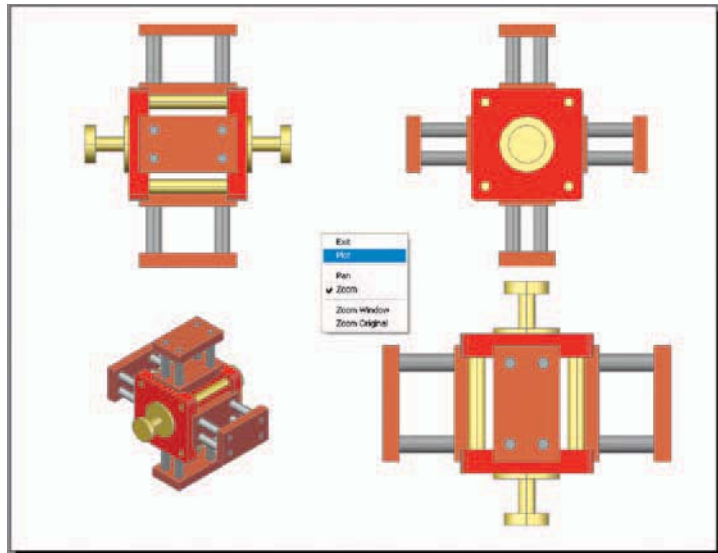

Fig. 15.46 Second example – multiple view copy
Second example – multiple-view copy (Fig. 15.46)
6. If the preview is satisfactory (Fig. 15.46), *right-click* and from the right-click menu *click* **Plot**. The drawing plots to produce the required four-viewport hardcopy.